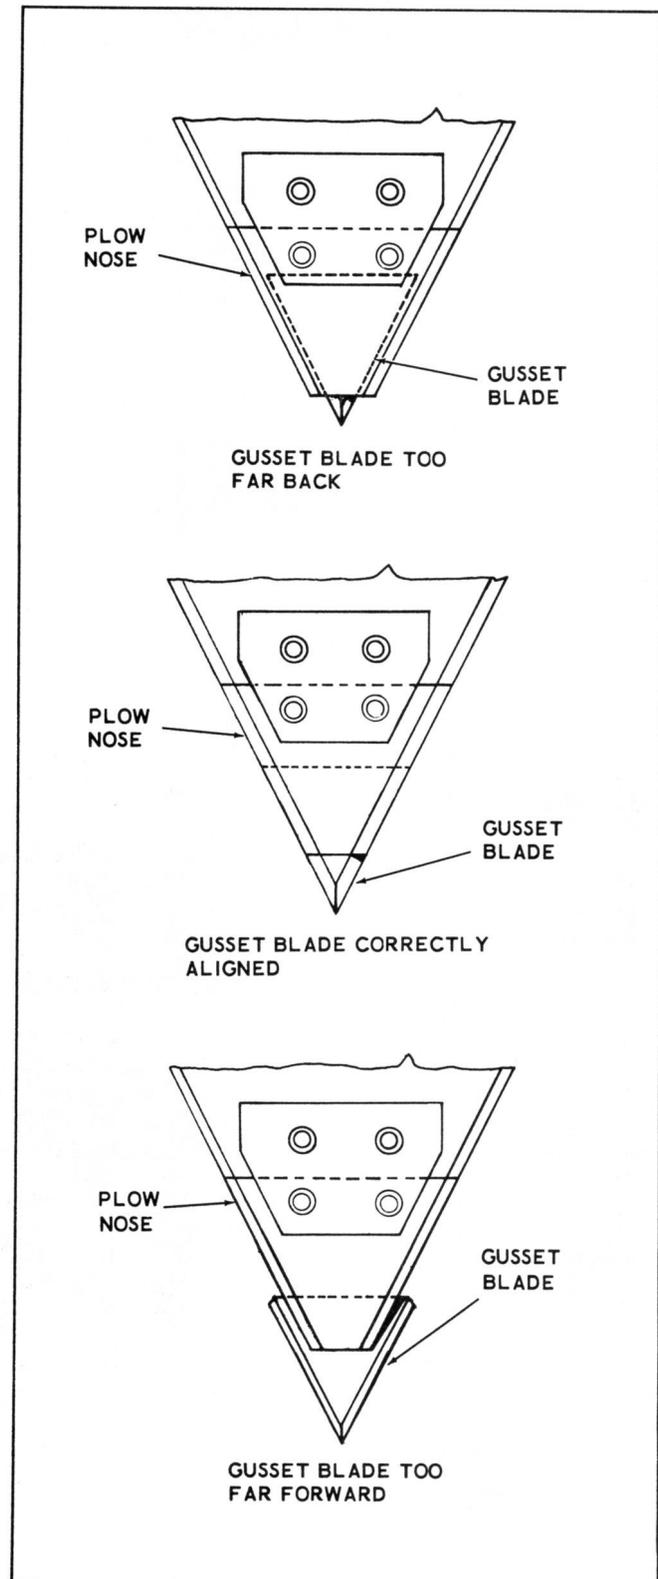

Figure 3-10. Aligning Gusset Blade with Plow Nose
- a. Loosen socket head screws holding gusset blade to holder. Move gusset blade forward or backward to line up with plow nose as shown in Figure 3-10. Tighten socket head screws.